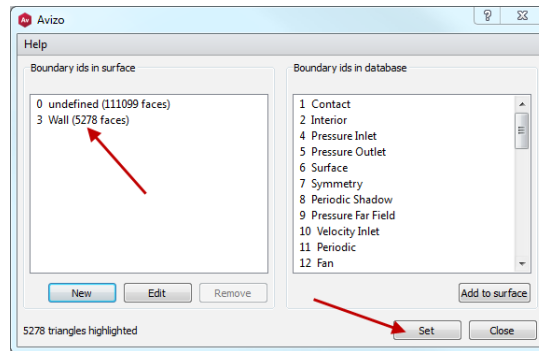

Figure 5.32: Setting the boundary ids.
- Repeat the operation as many times as needed to have no face left undefined (see Figure 5.32).